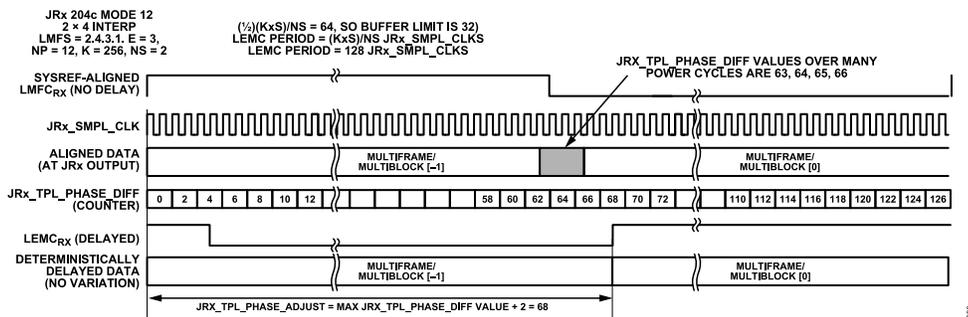

Figure 92. Example 2, Setting LMFC/LEMC Delay for Deterministic Latency
3. The latest possible arriving time is equal to the largest value recorded in Step 2. The count values range from 0 to  $((K \times S)/NS) - 1$  (the number of `jrx_conv_clk` cycles). If the range of values recorded span the terminal count value of the `jrx_conv_clk` counter, the latest possible arriving time value could be from 0 to 3 (see the example in Figure 92).
Figure 92 shows an example using JESD204C Mode 12 (2 × 4 interpolation). The receive buffer depth is always 32 *jrx\_conv\_clk* cycles deep. The LEMC contains 128 *jrx\_conv\_clk* cycles worth of data. Therefore, the receive buffer cannot store an entire LEMC worth of data. To avoid data errors, perform Step 1 through Step 3 for this example, which results in four possible values recorded in Step 2 (63, 64, 65, and 66). If no adjustment is made to the **phase\_adjust** parameter, the buffer must have a minimum depth of 64 (127-63) to avoid data errors. However, because the latest arrival time of the received data was determined to be at a count of 66 (as described in Step 2), a value of 68 is programmed into the **phase\_adjust** parameter (66 + 2, as described in Step 3). The data read out of the read buffer is deterministically delayed and output on the delayed LMFC/LEMC boundary (read pointer). Note that this method ensures the minimum latency through the DAC.